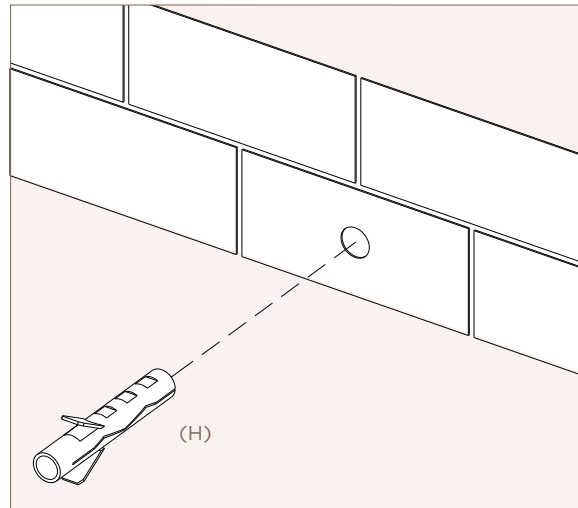

Figure 2
- 2.3.2 For fixing into concrete/brick, drill a hole using 5mm or ³/₁₆" masonry bit to take the wall plug (H). Figure 2.